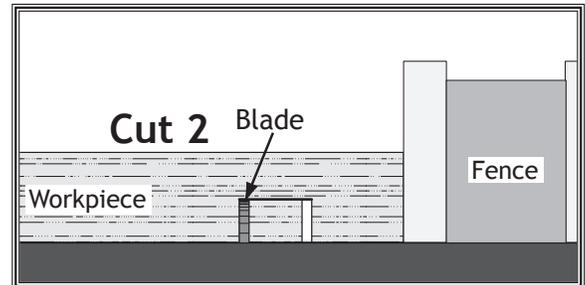

Figure 65. Second cut for a single-blade dado.
7. Repeat cutting operation on other side of dado, as shown in Figure 65.